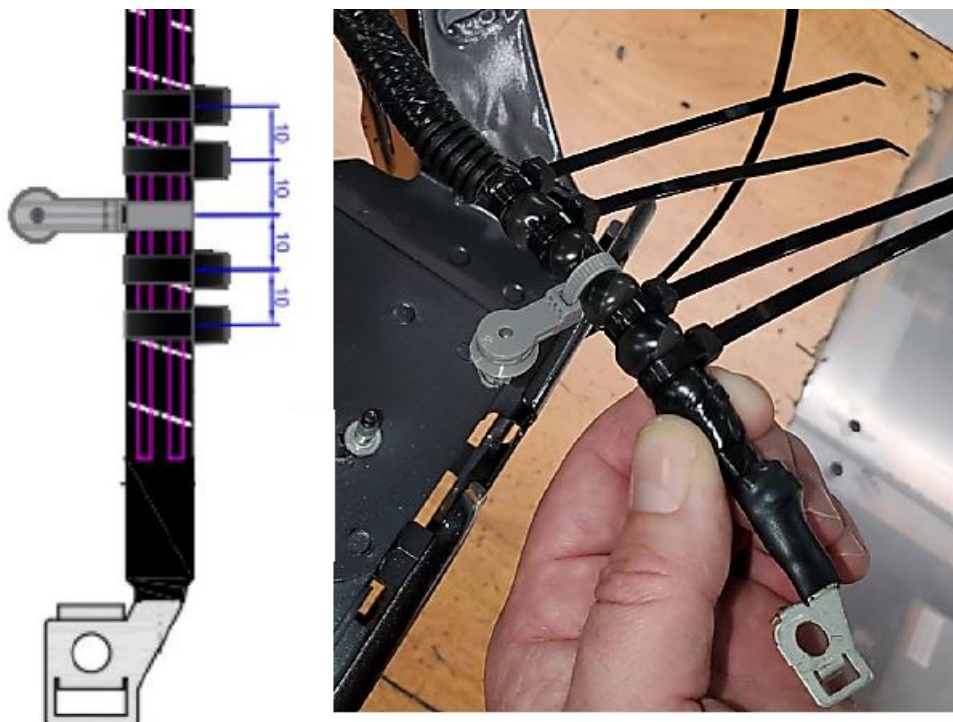

Fig. 2
5. Place four zip ties (10mm (3/8 inch) apart two on each side of the existing grey offset retainer) around G917A to place firm clamp load on existing butyl (Fig. 2) .